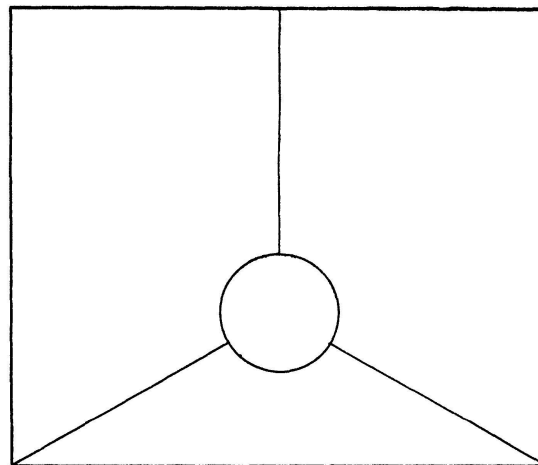

FIGURE 6
Step 15. When all parts of the central tube assembly are dry, attach one fin along the lines drawn in Step 7. Be sure the fins follow these lines and are aligned with the tube so as to cause **no** spin. When each fin attachment is dry, the next fin may be added with checks on spacing between additions of fins. Spacing may be checked by comparing the fin placement with figure 6. Attach each fin individually and allow about 20 minutes between successive attachments.